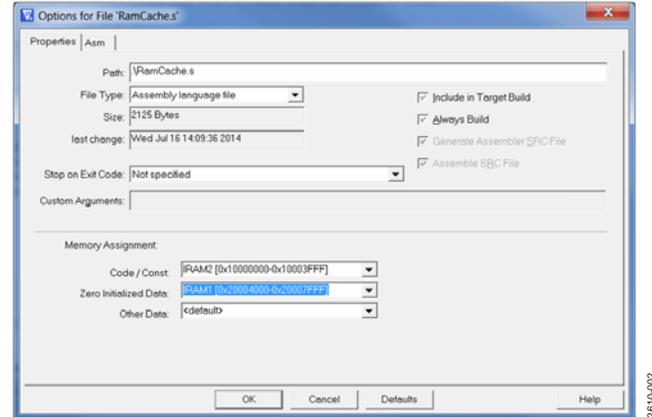

Figure 2. Assigning Memory Ranges
2. Place the code into IRAM2. In the **Project** tab, right click the file to be placed in L1 cache. In the window that opens, click the top item (**Options for File 'RamCache.s'**). In the resulting window shown in Figure 2, select **IRAM2 [0x10000000-0x10003FFF]** for **Code / Const**. For **Zero Initialized Data**, select **IRAM1 [0x20004000-0x20007FFF]** or leave as <default> to allow the linker to choose the range. In the same window, choose the range for **Other Data** or leave as <default> to allow the linker to choose the range. For each additional file destined for L1 cache, repeat this procedure to define the **Code / Const**, **Zero Initialized Data**, and **Other Data**, but make sure none of the chosen ranges overlap with each other.